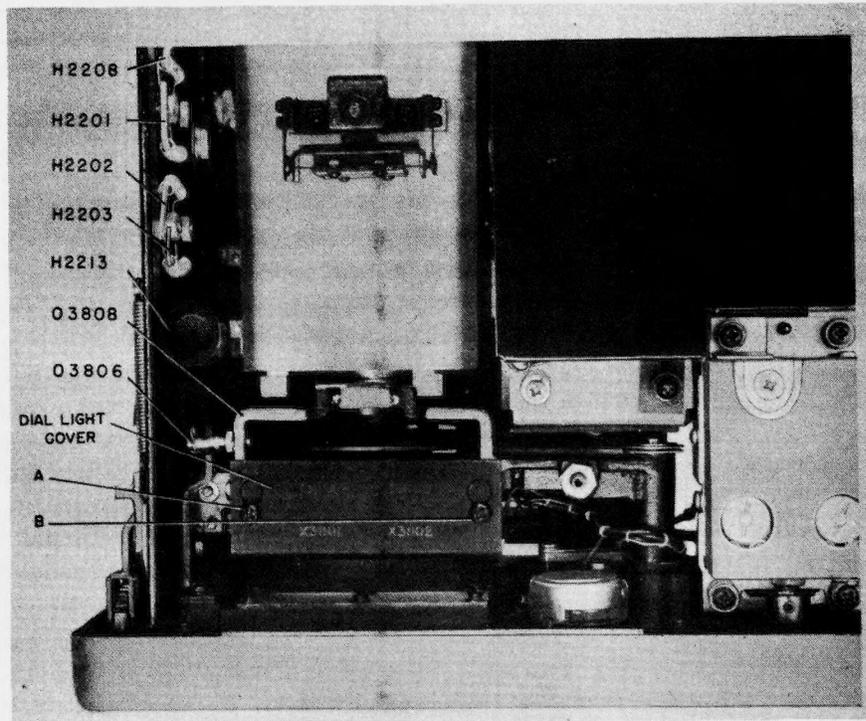

Figure 7-18. Lens-Arm Assembly and Dial Light Compartment, Top View
(a) PILOT LIGHT AND CRYSTALS. - First remove the pilot light cover or the cover of the assembly in which the crystal lies, then remove the bulb or crystal by use of the rubber plunger, H660, located near the Allen wrenches on the left inner wall of the chassis (see figure 7-18). This plunger has an opening at each end. Place the end having the proper size opening over the crystal or bulb and press on the plunger until it grips the crystal or bulb. Then remove the bulb or crystal by pulling or twisting the plunger as necessary.
1. Pull the receiver chassis out to servicing position. Behind the tuning dial, accessible from the upper side of the chassis, is the cover of the dial light compartment (marked I3801, I3802, X3801, X3802). This is shown in figure 7-18.
2. Loosen the two captive screws (A and B of figure 7-18) which retain the dial light cover. Slide the cover forward so that its two keyhole-shaped openings clear the captive screws, then lift off the cover.
(b) On the top side of the chassis, unhook the spring O3806 (figure 7-18) from the left side of the lens arm assembly, O3808, and tie a 6-inch piece of string from the end of the spring to the bracket supporting the lens arm assembly, to prevent the spring from falling into the center of the chassis. Then swing the lens arm assembly open, and tie a piece of string from the end of the lens arm assembly to the right-hand front handle of the chassis.
(6) ALIGNMENT OF THE TUNING DIAL. - (See figures 7-18 to 7-21.)